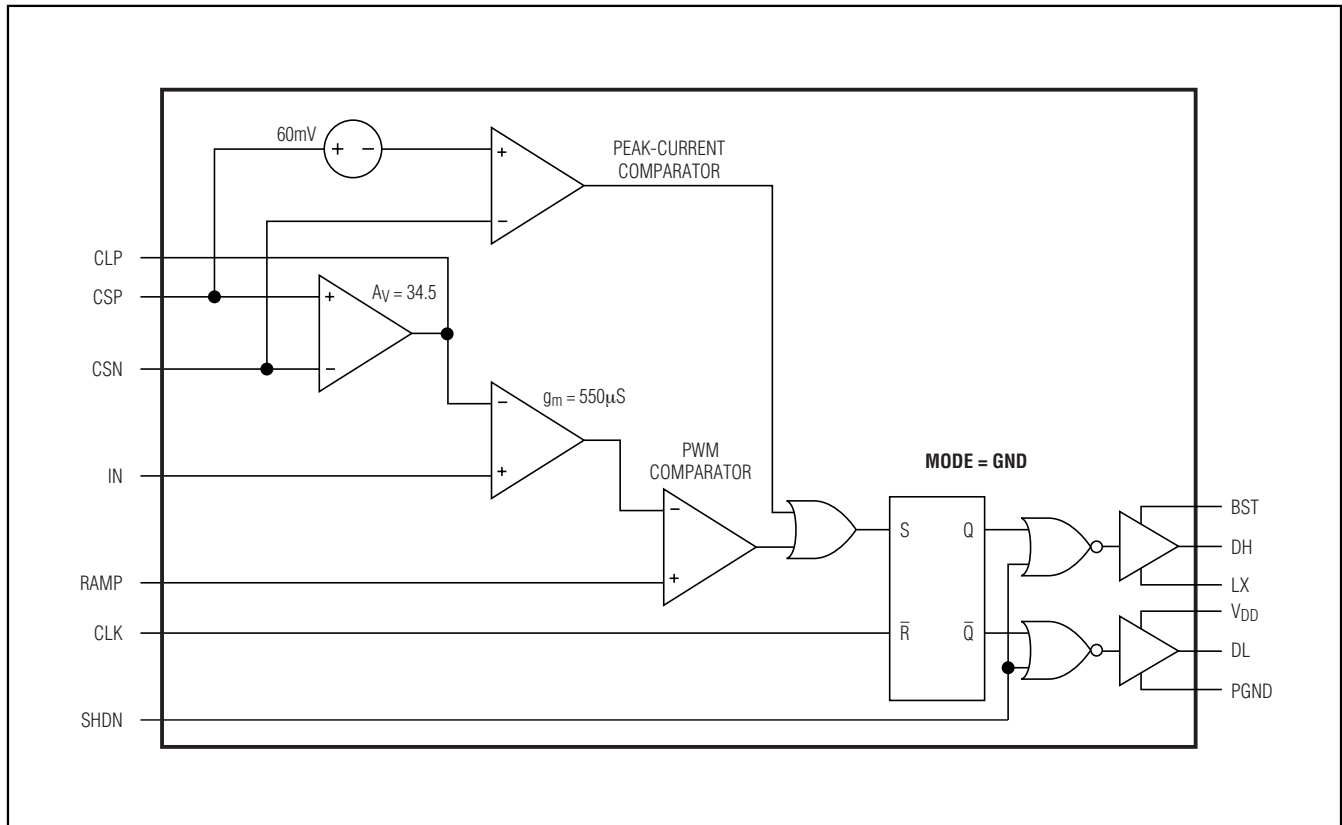

Figure 3. MAX16821A/MAX16821B/MAX16821C Phase Circuit
The peak-current comparator provides a path for fast cycle-by-cycle current limit during extreme fault conditions, such as an inductor malfunction (Figure 3). Note the average current-limit threshold of 27.5mV still limits the output current during short-circuit conditions. To prevent inductor saturation, select an inductor with a saturation current specification greater than the average current limit. The 60mV threshold for triggering the peak-current limit is twice the full-scale average current-limit voltage threshold. The peak-current comparator has only a 260ns delay.
2Vp-p ramp signal. At the start of each clock cycle, an R-S flip-flop resets and the high-side driver (DH) turns on if MODE is connected to SGND, and DL turns on if MODE is connected to V_{CC} . The comparator sets the flip-flop as soon as the ramp signal exceeds the CLP voltage, thus terminating the ON cycle. See Figure 3.